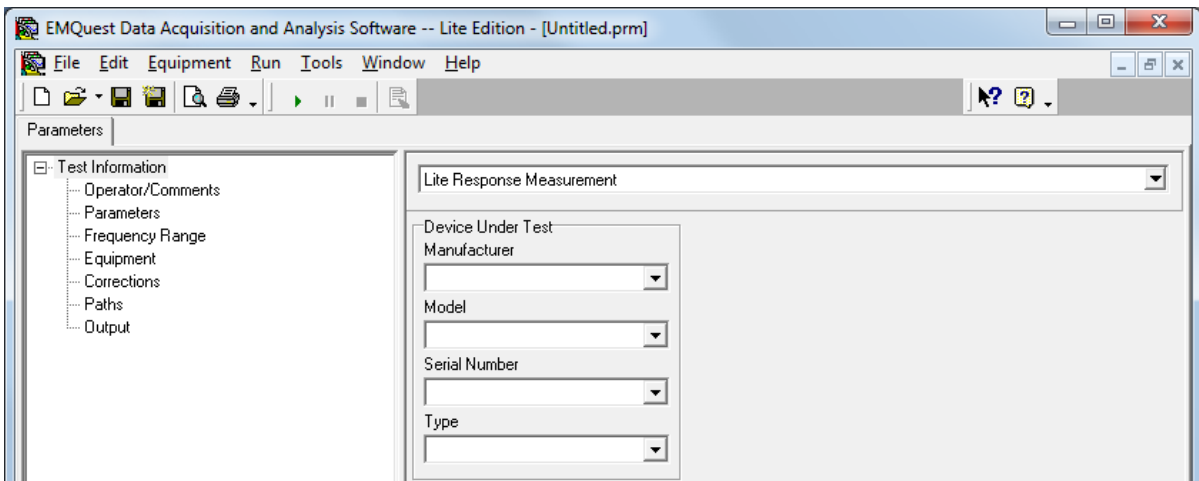

Figure 1. Test information menu tree.
3. Expand the drop-down menu under "**Test Information**" and select "Lite Response Measurement" under "Response Measurements". A list of submenus will now appear under "**Test Information**" as shown in Figure 1: